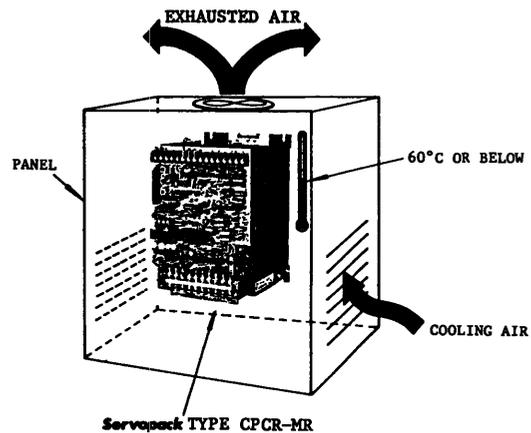
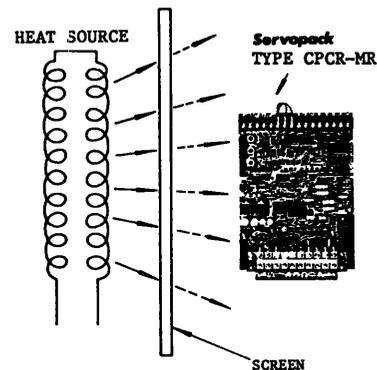

Fig. 1 Typical Layout for Panel Mounting
Fig. 2 Protection against Heat Radiation
- (1) When installed in a panel:
- Keep the temperature around Servopack at 60°C or below. Avoid blowing cooling air directly against the transistors on the printed circuit board. (Fig. 1)
- (2) When installed near a heat source:
- Keep the temperature around Servopack below 60°C. (Fig. 2)
- (3) If subjected to vibration:
- (4) If corrosive gases prevailing:
- (5) Where unfavourable atmospheric conditions considered: